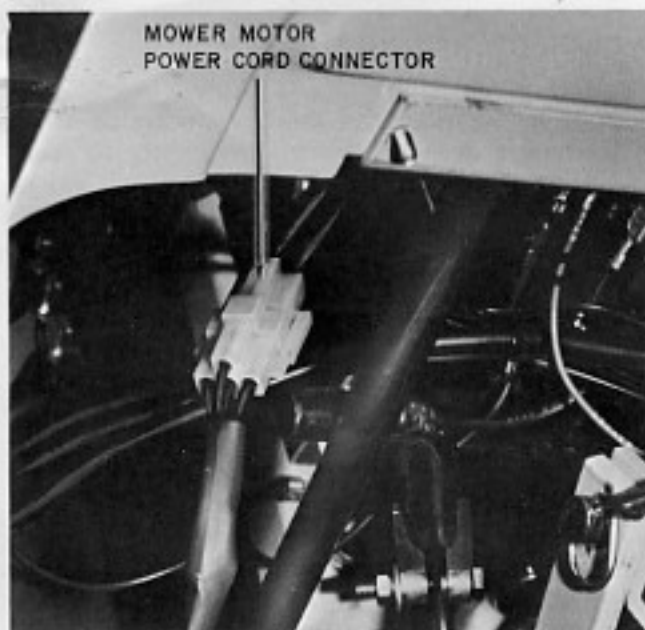

Fig. 11 Front Mower Suspension and Wiring
9. Join each mower-motor power-cord connector to its corresponding power cord exiting down from the bottom of the frame. (See Fig. 11.)